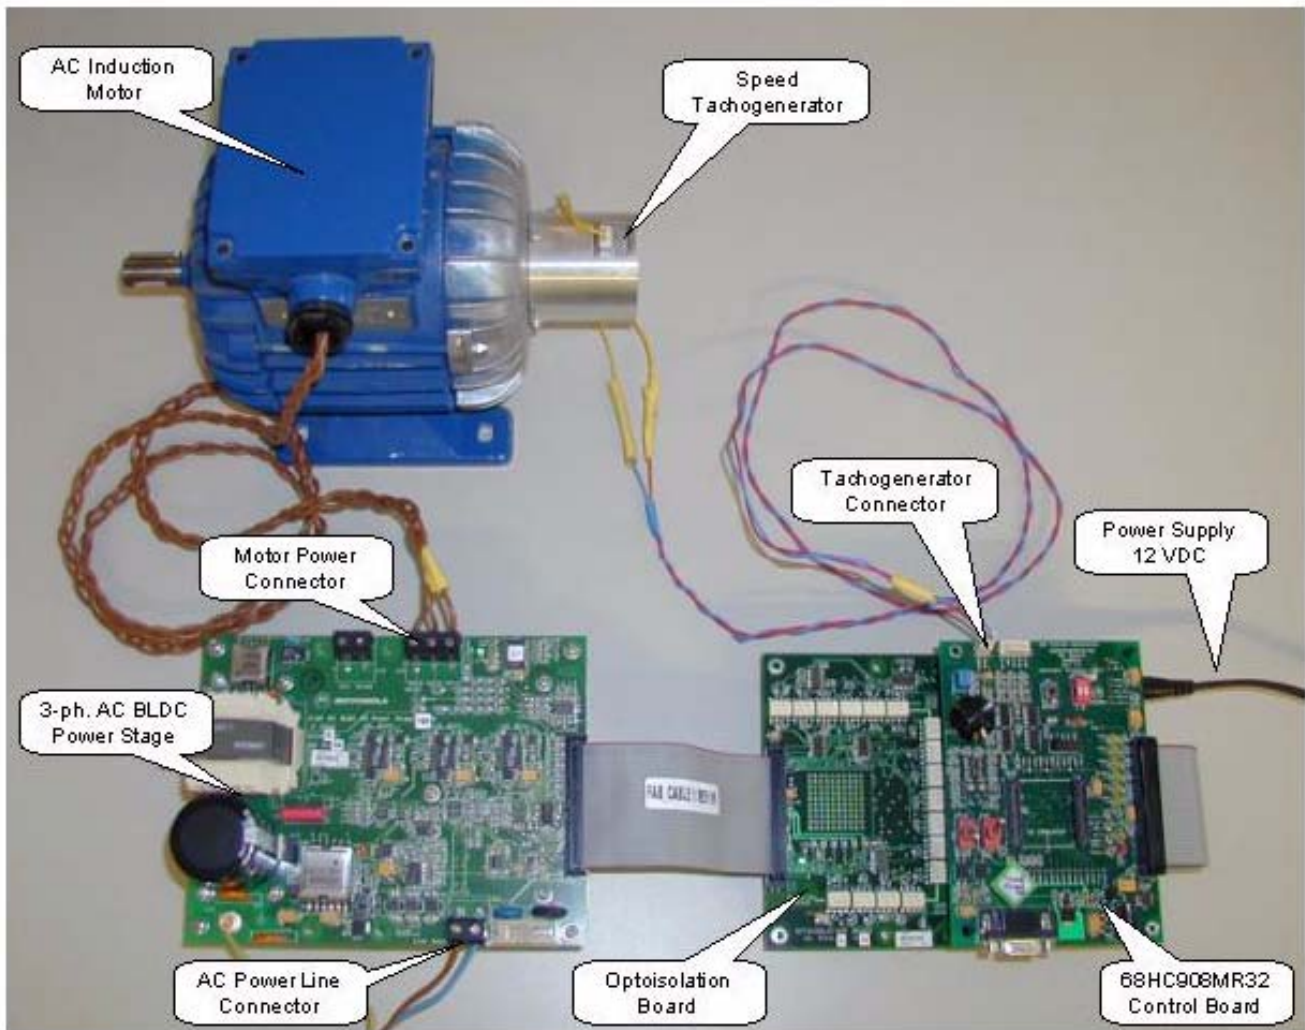

Figure 5-1. Setup of the Application
**Figure 5-1** illustrates the hardware setup for the application. It incorporates the following modules: